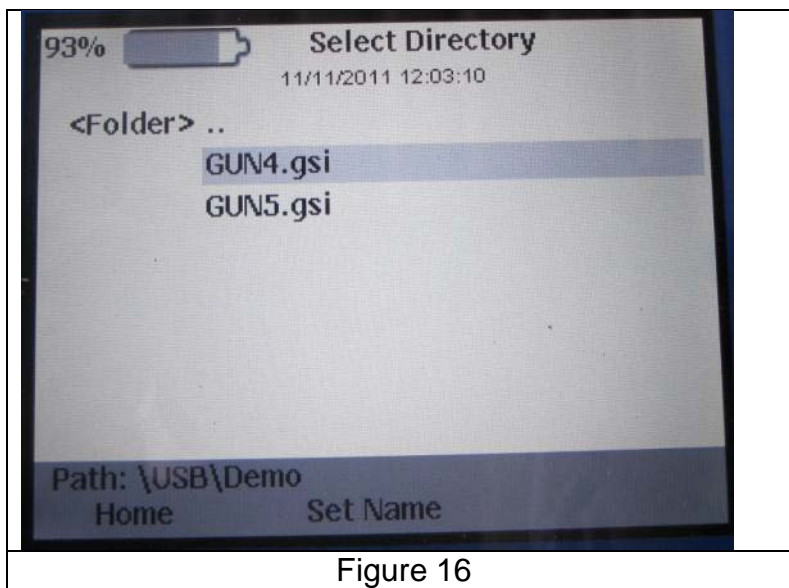

Figure 16
- Save - Saves the tested gun string to a USB thumb drive as a filename.gsi file. Selecting the Save option brings up the Select Directory window shown in Figure 16. Highlight a folder or file using the Up/Down arrow keys and Select a folder or root director in which to save the file.